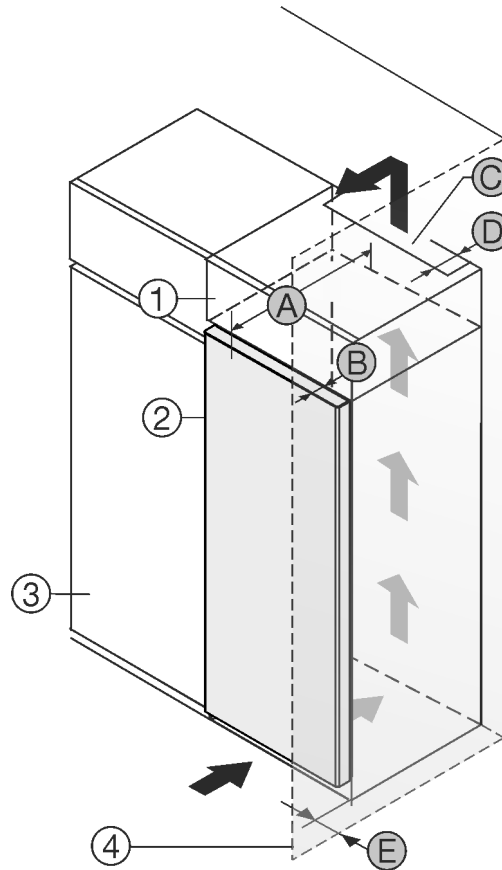

Fig. 1
You can place the appliance directly beside the kitchen cabinet Fig. 1 (3).\*
There must be a ventilation shaft at the depth Fig. 1 (D) of the back of the top cupboard over the entire width of the top cupboard.\*
The ventilation cross-section Fig. 1 (C) must be maintained under the ceiling.\*
If the appliance is set up with the hinges next to a wall Fig. 1 (4), the distance between the appliance and the wall must be at least 13 mm.\*
If the appliance is set up with the hinges next to a wall Fig. 1 (4), the distance between the appliance and the wall must be at least 20 mm.\*
In order to be able to fully open the door, the appliance must protrude by the depth of the door Fig. 1 (B) from the front of the kitchen cabinet. The appliance may protrude further depending on the depth of the kitchen cabinets Fig. 1 (3) and whether wall spacers are used.\*